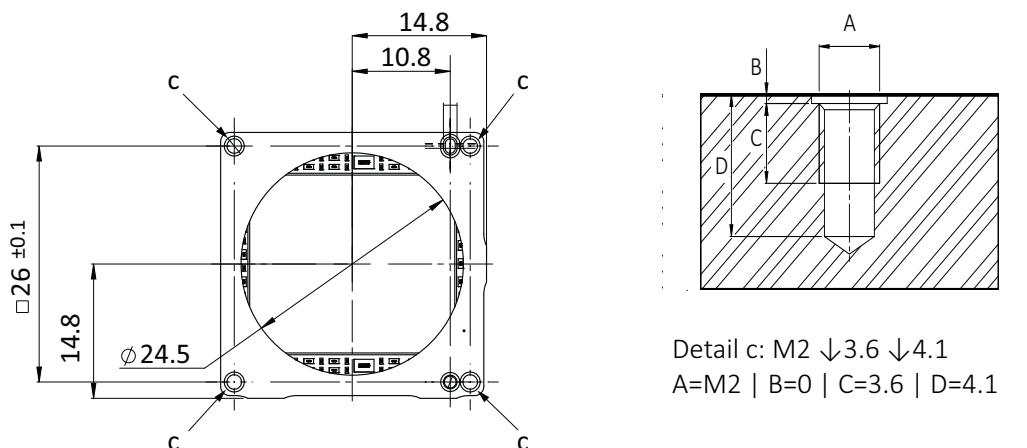

Figure 100: Mounting threads Alvium Frame
As shown in Figure 100, mount the camera to the base using suitable M2 screws for the 4 mounting threads: At 0.4 Nm maximum torque for a thread engagement (C) of 3.6 mm between screws and mounting threads.